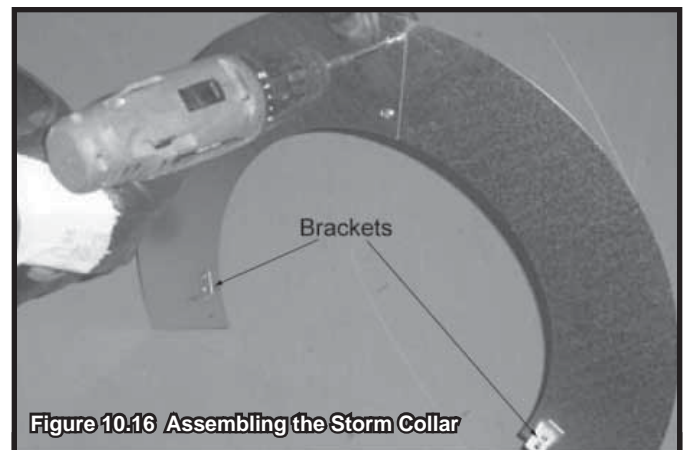

Figure 10.16 Assembling the Storm Collar
- Connect both halves of the storm collar with two screws (see Figure 10.16).